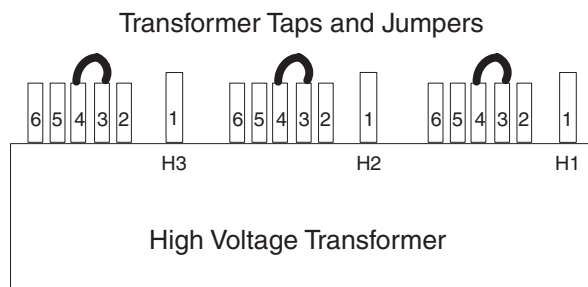

Figure 5-6 PDU Tap Positions (Rear)
- 2.) After determining the nearest nominal line, verify the tap connections match (refer to Table 5-2 and Figure 5-6 for tap locations).